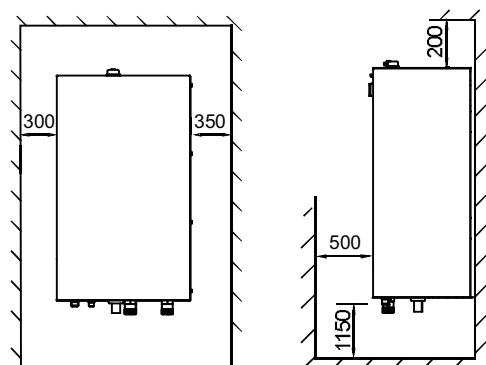

Fig. 5-3
- The space around the unit is adequate for serving, see figure 5-3.
- Required service space, see figure 5-3.